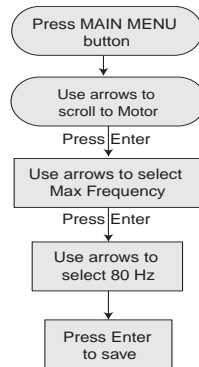

Figure 11 - Select 80 Hz (3-phase operation only).
- B. Follow the keypress sequence shown in Figure 11.